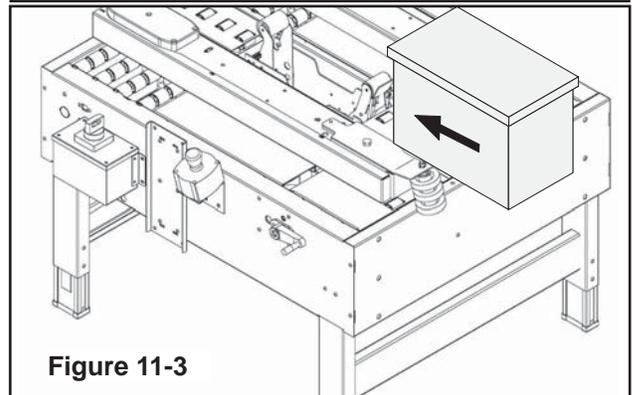

Figure 11-3
11.3 Run Boxes to Inspect Adjustment (**Figure 11-3**)